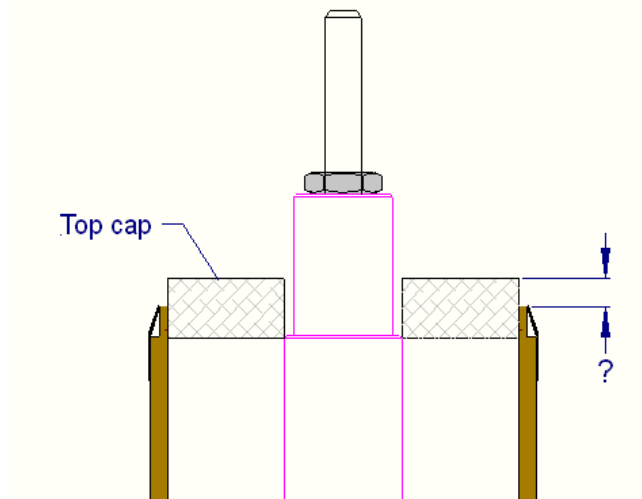

Figure 2 – Submersion of Top Cap
6. Slip Top Cap over coring rod and lower until bottom surface is even with the shoulder. Make note of how far it protrudes, as illustrated in Figure 2. Remove Top Cap and set aside.